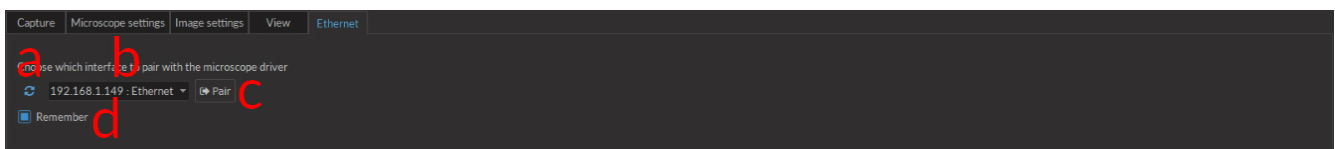

Figure 3.56: Microscope Ethernet Tab
- a) The **Refresh** button (Fig. 3.56) will identify any accessible IP addresses and add them to the drop-down list.
- b) The **Ethernet** drop-down list (Fig. 3.56) includes all IP addresses connected to an ethernet adapter. The proper one must be selected to properly connect the microscope.
- c) The **Pair** button (Fig. 3.56) connects the software to the driver.
- d) The **Remember** checkbox (Fig. 3.56) will keep the chosen IP address so that the chosen microscope driver will be connected automatically next time the software is opened.